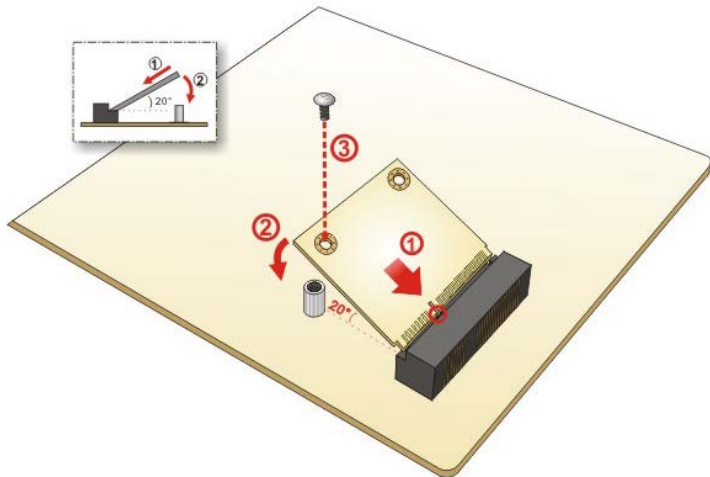

Figure 3-7: mSATA Module Installation
- Step 3: Line up the notch on the mSATA module with the notch on the connector. Slide the mSATA module into the socket at an angle of about 20° (Figure 3-7).
- Step 4: Press the other end of the mSATA module down and secure the module with the previously removed retention screw (Figure 3-7).